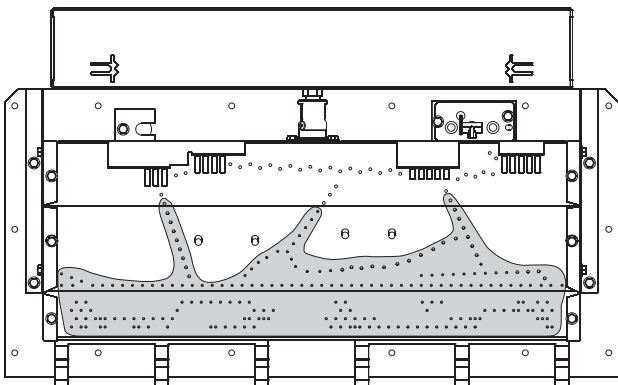

Figure 63
The positioning of logs is critical to safe and clean operation of this fireplace. Sooting and other problems may result if the logs are not properly and firmly positioned in the firebox. Please refer to **Figures 63 through 66** and corresponding WARNING, when completing the following log placement steps.
17. After all logs are properly positioned, place small "dime" size pieces of Rockwool lightly across the front round "blueflame" ports. Place the ember material (Rockwool pieces) side by side. Do not stack more than one layer of embers across the burner ports. See Figure 63.